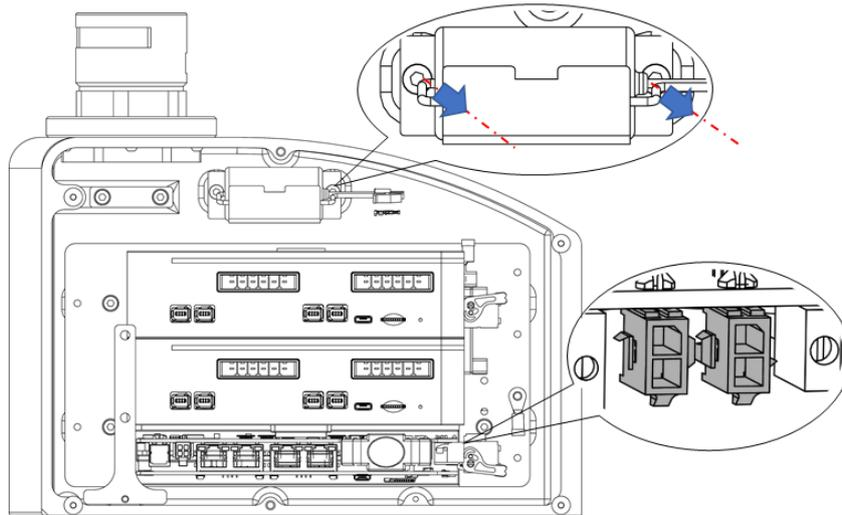

Figure 5-2 Removal of fastening screws from encoder battery
- Step 2** Remove screws from the part fixing the encoder battery as shown in Figure 5-2 and slowly pull out the battery assembly.